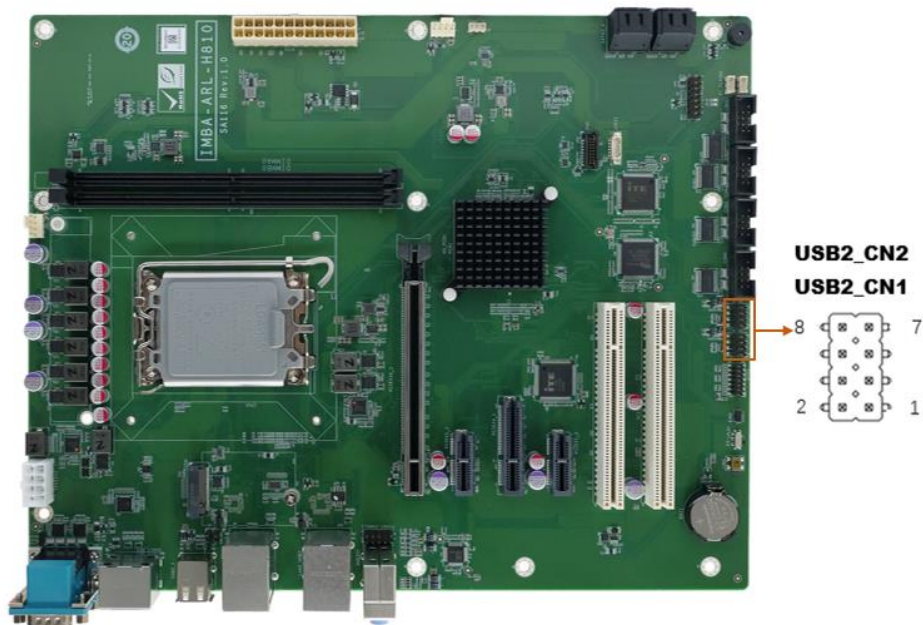

Figure 3-21: Internal USB 2.0 Connector Locations
- CN Location:** See Figure 3-21